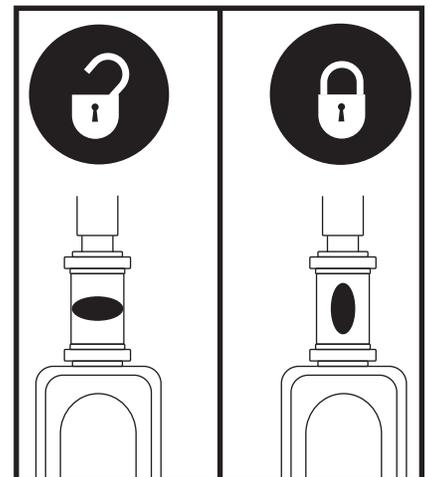

Figure 17. Tiller Lock Knob
1. Remove the key from the key switch and then lock the tiller in the straight ahead position by pushing the tiller lock knob in and turning it clockwise 90°. See **figure 17**. The front wheel must face forward in order to lock the tiller.
6. Unlock the tiller by turning the tiller lock knob 90° counterclockwise. See **figure 17**.